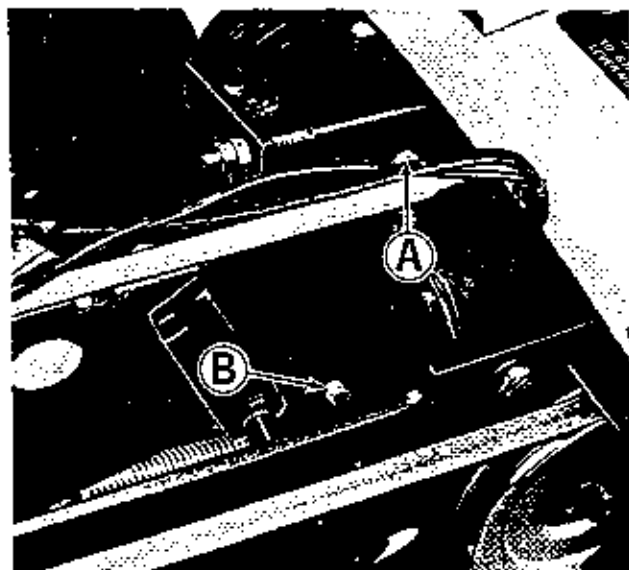

Figure 31. Bevel gear housing located under seat deck.
**CHECK BEVEL GEAR BOX OIL LEVEL:** See figure 31. The bevel gear box fill plug is located at (A). The gear box is properly filled when SAE 90 weight transmission oil is added until it touches the end of the fill plug dipstick assembly. Do not screw plug into housing when measuring for oil level. Drain bevel gear housing by removing drain plug (B). To prevent oil leakage, securely tighten both fill and drain plugs. The fill plug assembly is vented.